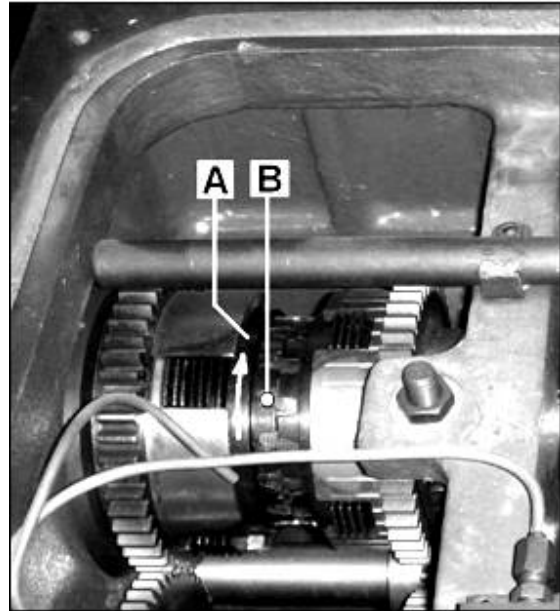
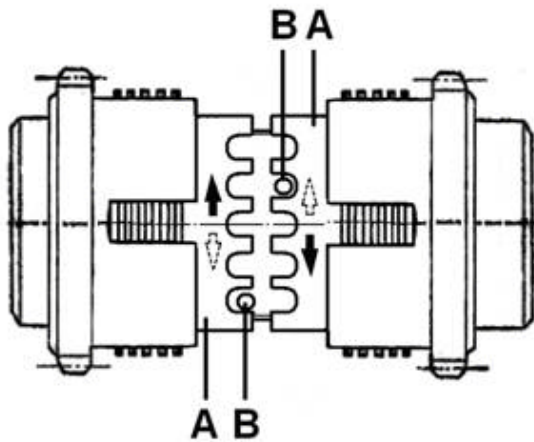

Fig 15
Fig 16
- Use a screwdriver and push in the index pin (B, Fig 15 and Fig 16) ...it is spring loaded.
- Rotate the clutch nut (A) to the next index.